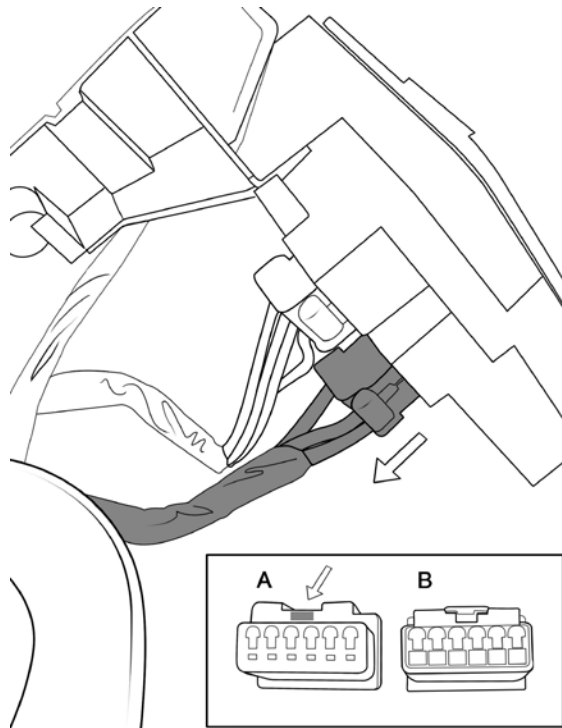

Figure 50
- d. Remove the six wire connector from clock spring. It should look like A, trim the top of A to look like B (fig 50).